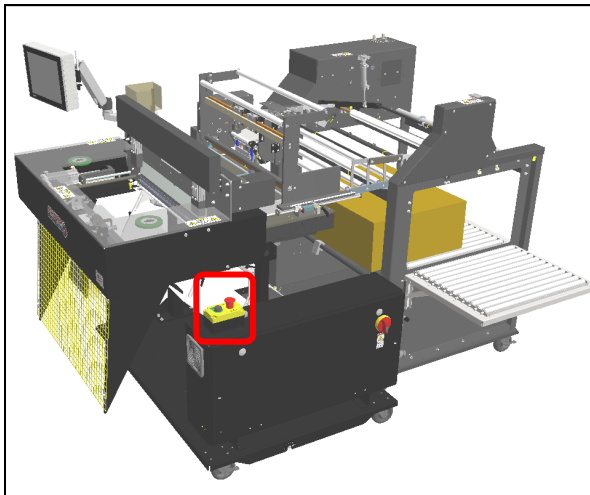

Figure 5-1A. E-Stop & Power Pushbutton.
2. Release the E-Stop Button on bagger. Release E-Stop Buttons on any connected conveyors, if applicable. Figure 5-1A
4. Push the green Power Pushbutton. Figure 5-1A.